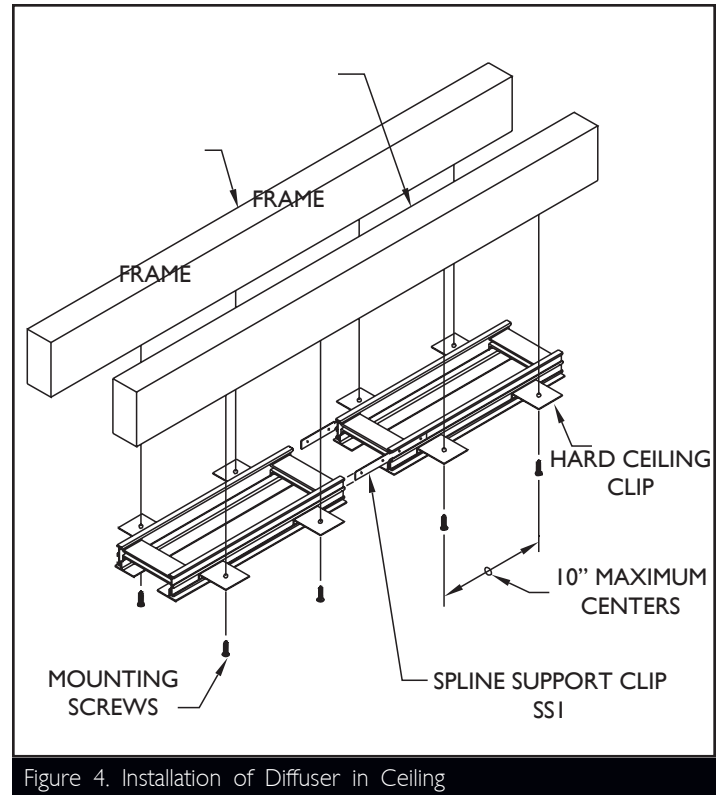

Figure 4. Installation of Diffuser in Ceiling
- ❑ Lift the FlowBar Diffuser into the framed opening and secure the Mounting Clips to the frame with flat head screws as shown in Figure 4.
- ❑ If multiple sections of FlowBar are required, repeat previous step by lifting additional sections into the framed opening. Be sure to insert Spline Support Clips-SS1 into the FlowBar ends to insure a tight and aligned connection as shown in Figure 4.